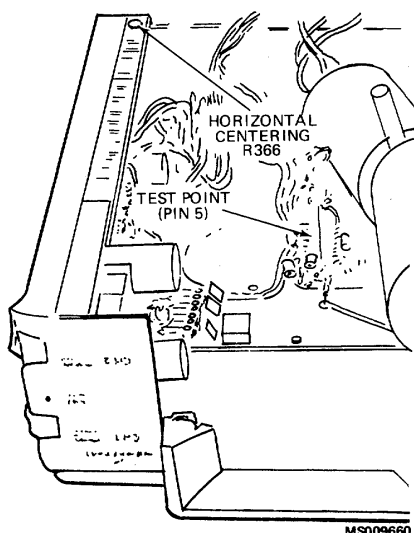

Figure 4-5. Location of Horizontal Centering adjustment and test point.
b. Connect the DC voltmeter between pin 5 of U105 (positive meter lead to pin 5) and ground. (See Fig. 4-5 for test point and adjustment location.)